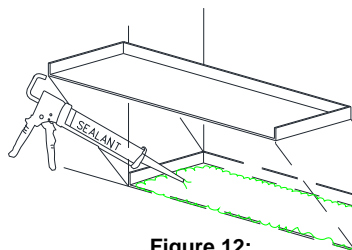

Figure 12:
- Secure the sillpan to the floor with sealant (Figure 12). Position sillpan as necessary to allow for proper installation of frame assembly.